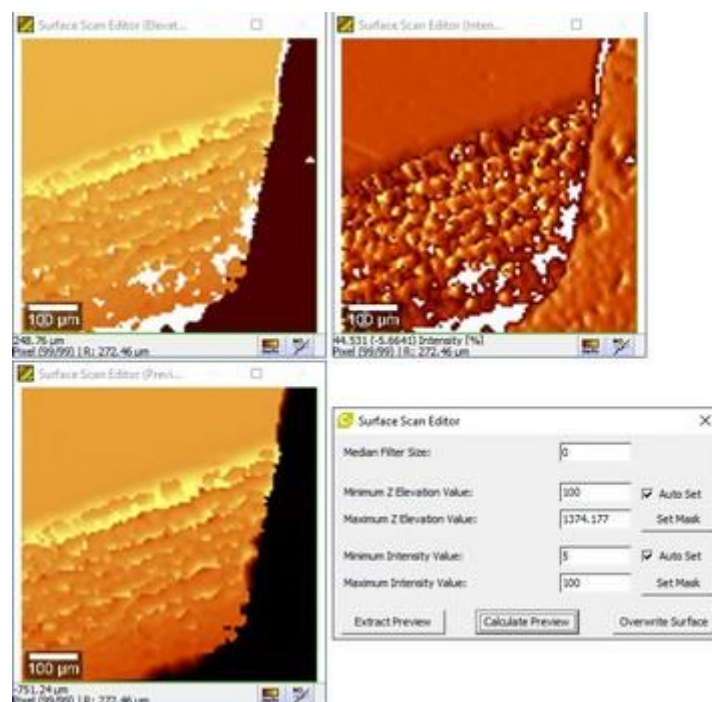

Figure 1: Surface Scan Editor
8. Surface points with a Z Elevation below zero or too low intensity have to be removed. Change the filter settings and click on **Calculate Preview**. (Figure 1)
9. Click on **Overwrite Surface** (Figure 1)
10. Optional: Click on **Extract Preview** (Figure 1) (Image could be used for navigation in 14.)